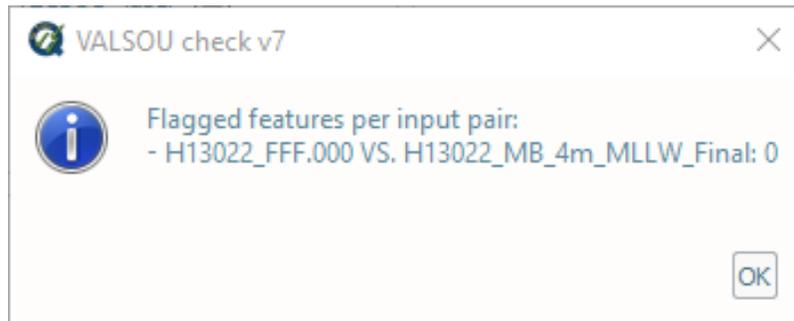

Fig. 2.50: The output message at the end of VALSOU check v7 execution.
- After computing, the output window opens automatically, and the results are shown (Fig. 2.50). Note, the check considers all combination of grids and features files loaded. If there is no overlap found between a grid and feature file, no output is generated, and the summary will report “no overlap”.